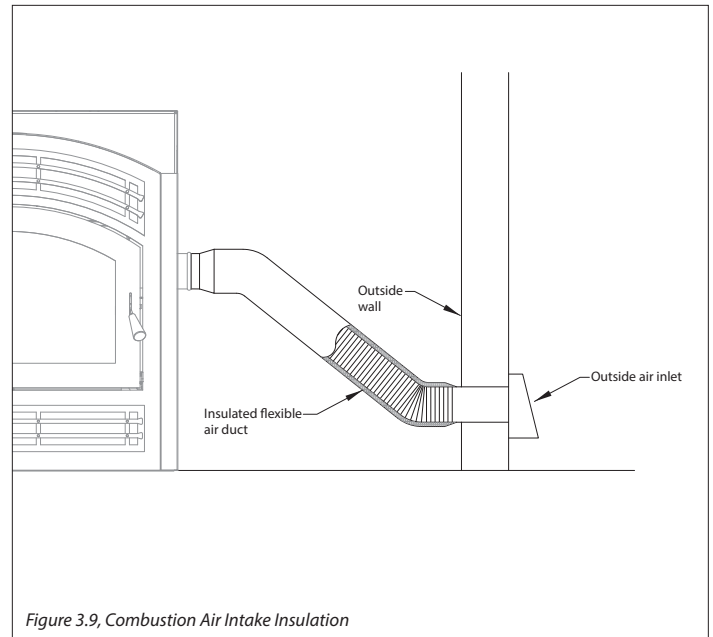

Figure 3.9, Combustion Air Intake Insulation
**NOTE:** If the combustion air duct pipe runs for any distance outside the enclosure, but inside the house, wrap with insulation to eliminate condensation or frost build-up. See Figure 3.9.